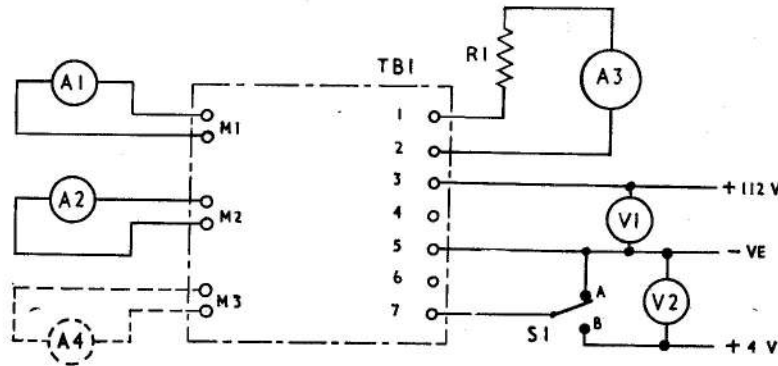

Fig. 5. Test circuit diagram
19. Connect the regulator amplifier in the circuit as shown in fig. 5 without connecting milliammeter A4 (Table 2).
- (1) Switch on and adjust V1 to 112 volts with S1 in position A on fig. 5.